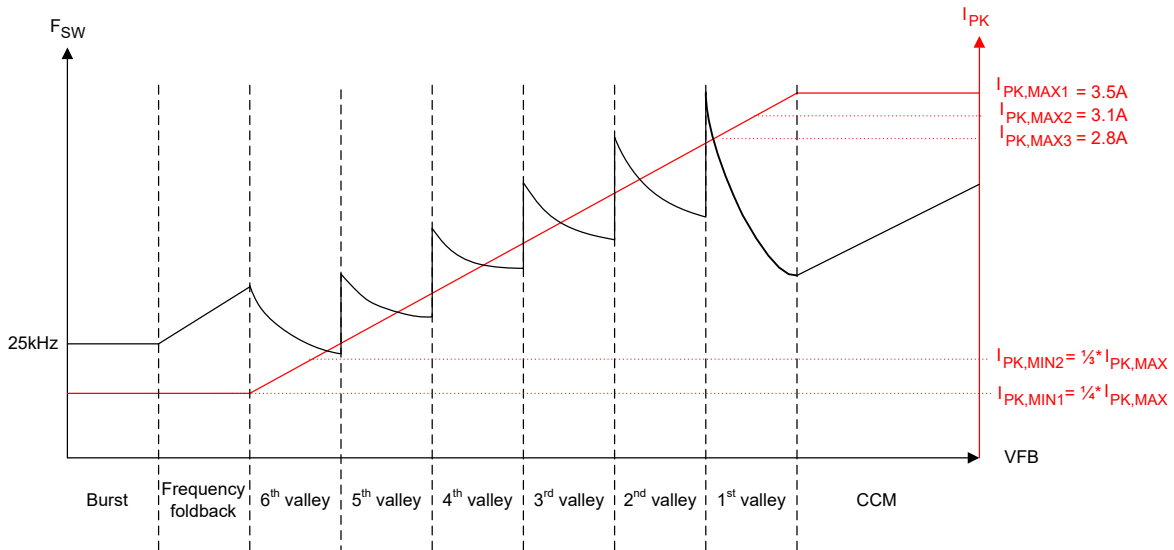
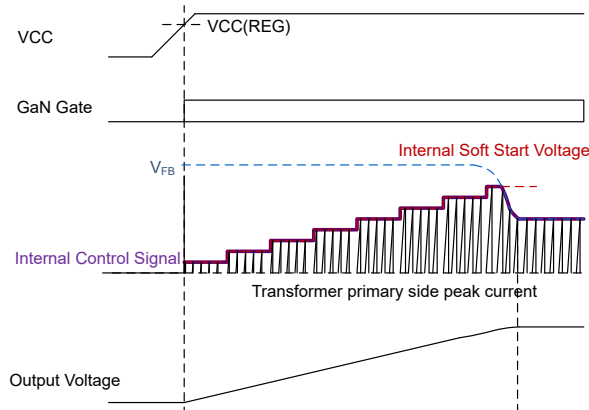

Figure 7-3. UCG2882x Control Law
Figure 7-8. Soft Start Sequence
Hence, in UCG2882x, in every switching cycle, the primary GaN HEMT turns off after reaching the peak current threshold and turns on next at a target valley in magnetizing ring during discontinuous mode (DCM) operation. The instantaneous primary peak current and target valley is determined by the feedback (FB) pin voltage as per the control law of Figure 7-3. Connect the FB pin to the optocoupler collector. The negative feedback loop sets FB pin voltage to the required value to support a certain V_{OUT} and P_{OUT} on the output. The device can operate in one of the four modes of operation: burst, frequency foldback, valley switching or continuous conduction mode, as described later.
In the control law shown in Figure 7-3, the UCG2882x offers flexibility to select a max peak current $I_{PK,MAX}$ to optimize for the switching frequency at rated load and transformer size. For each $I_{PK,MAX}$ setting, a scaling ratio of 1/3rd or 1/4th is available for the minimum peak current $I_{PK,MIN}$. This $I_{PK,MIN}$ value determines the switching frequency and losses in light load conditions when the flyback converter is operating in frequency foldback or burst modes. For all values of $I_{PK,MAX}$ and $I_{PK,MIN}$, the slope of control law peak current vs feedback voltage remains the same, as per Equation 1. Table 7-6 shows the threshold voltages for transition between different modes and between valleys for different peak current settings of Table 7-3.
The UCG2882x is designed to operate with soft switching and primary FET turn-on at a valley to reduce switching losses. The converter operates in valley switching except during peak load transients during which control can transition to CCM mode (if enabled using CDX pin). During valley switching mode, the target valley and peak current threshold are governed by the control law of Figure 7-3 and Equation 1:
As shown in Figure 7-3, once the boundary of 1st valley QR operation is reached with increasing output power, the control clamps I_{PK} to the maximum selected value $I_{PK,MAX}$, and begins to reduce the secondary conduction time T_{OFF} in CCM mode. This reduction in T_{OFF} is proportional to increase in FB pin voltage, until 50% of the QR mode off-time to reach maximum 1.5× the QR mode output power delivery capability. Use a primary magnetizing inductance L_M large enough to not hit the frequency clamp during CCM mode and avoid any subharmonic oscillations which can increase output voltage ripple, depending on application requirements. For long duration output power transients, the converter returns to 1st valley QR mode after expiry of the 10ms CCM timer and continues to deliver the largest possible output power at the transition point of QR and CCM modes, while operating in QR mode. The device offers flexibility to enable or disable CCM mode operation with a resistor from the CDX pin to GND, as per values in Table 7-5.
When turned on, a flyback converter starts with 0V output voltage. The low voltage can cause the feedback voltage FB to clamp the maximum value and trigger overload protections. To prevent the clamping from happening, the UCG2882x starts in soft start mode. As Figure 7-8 shows, during this time, an internal FB voltage ramp increases in eight steps from 0V to its maximum value in 4ms. The maximum value of internal FB ramp at FB pin voltage is equivalent to 80% of the $I_{PK,MAX}$ setting and changes for different resistor settings on the IPK pin. During soft start, the smaller of internal ramp voltage and actual FB pin voltage is used to determine the device operating point in the control law of Figure 7-3. Once the internal FB ramp voltage reaches the maximum value at the end of 4ms is when control is transferred to FB pin voltage for output regulation. Soft start sequence is executed every time at start up or when recovering from fault (auto-retry or latch) and brown-out conditions. The minimum frequency clamp is changed to 10kHz only during soft start (which is otherwise at 25kHz during normal operation). The 10kHz minimum frequency clamp helps at start-up when valleys are missing and the control law forces turn-on of primary GaN HEMT every 100 μ s from the last turn-on edge (if valleys are missing), to charge the output capacitor.